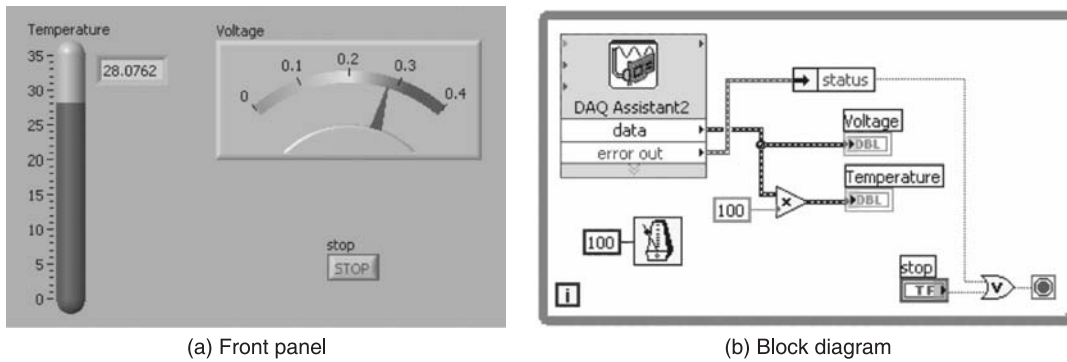

Figure P11.1
**Solution** The front panel and the block diagram to acquire an analog signal are shown in Figures P11.1(a) and P11.1(b).